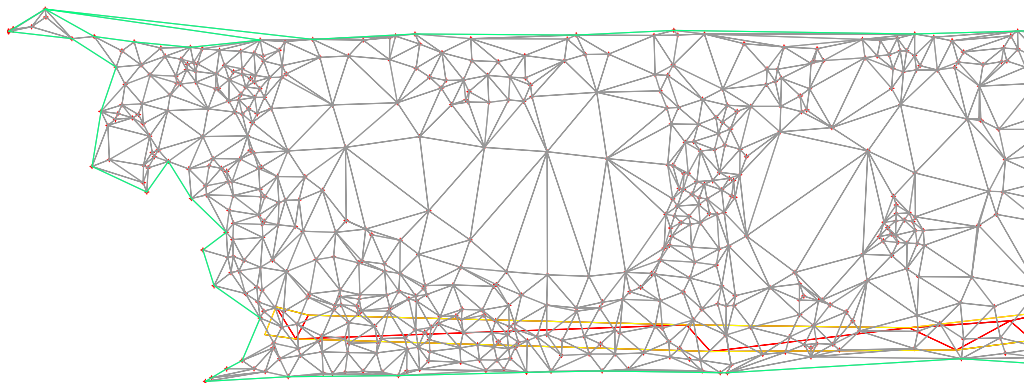

Figure 3-66 The **EG** surface after deleting the **TIN** lines
6. Press ENTER; the selected lines are deleted and the surface is displayed, as shown in Figure 3-66. Press ENTER to exit the command.